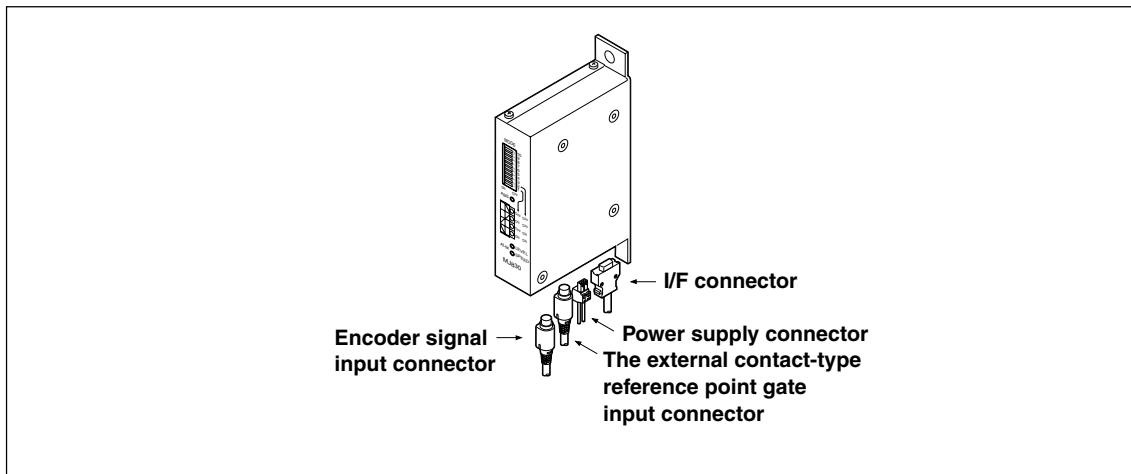

Fig. 3-1
Power should be supplied to the I/F connector and power supply connector shown in Fig. 3-1 according to the specifications below.
To connect the encoder signal input connector, the external contact-type reference point gate input connector, and I/F connector to the interpolator, insert the connectors into the locations shown in Fig. 3-1 until they click into place.
- Insert the connectors correctly at the designated locations (refer to Fig. 3-1). The connectors could be damaged if they are inserted in the wrong locations.